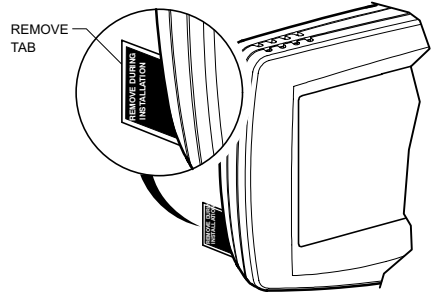

Figure 12 - Remove tab labeled REMOVE from thermostat back.
2. Locate and remove the tab labeled Remove (see figure 12).